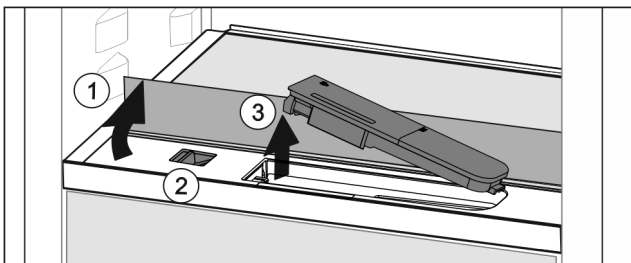

Fig. 126
- Lift the glass panel and fold to the back as far as it will go Fig. 126 (1).
- Slide the slider Fig. 126 (2) to the left.
- Remove the water tank Fig. 126 (3).